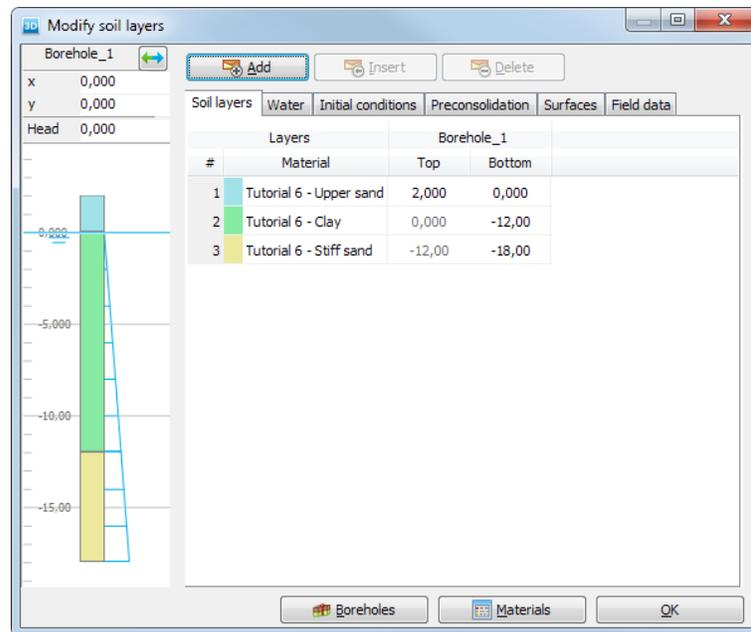

Figure 69: Soil layer distribution
2. Assign the material data sets to the corresponding soil layers (Figure 69: Soil layer distribution (on page 92)) and close the **Modify soil layers** window. The concrete data set will be assigned later.